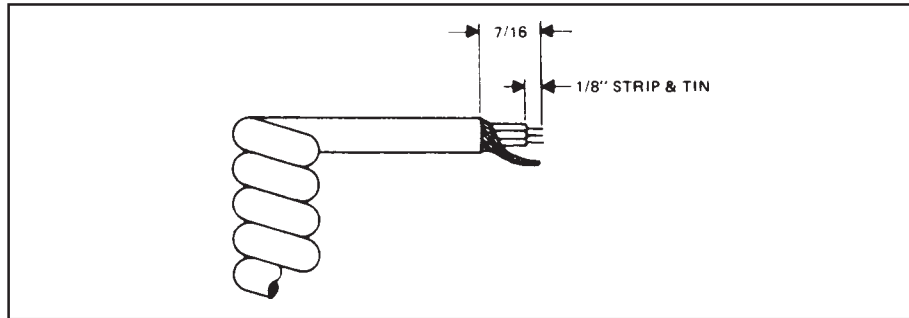

Fig. 2. Microphone Cable Preparation
1. Cut leads so that they extend 7/16" beyond the plastic insulating jacket of the microphone cable (see Fig. 2.)